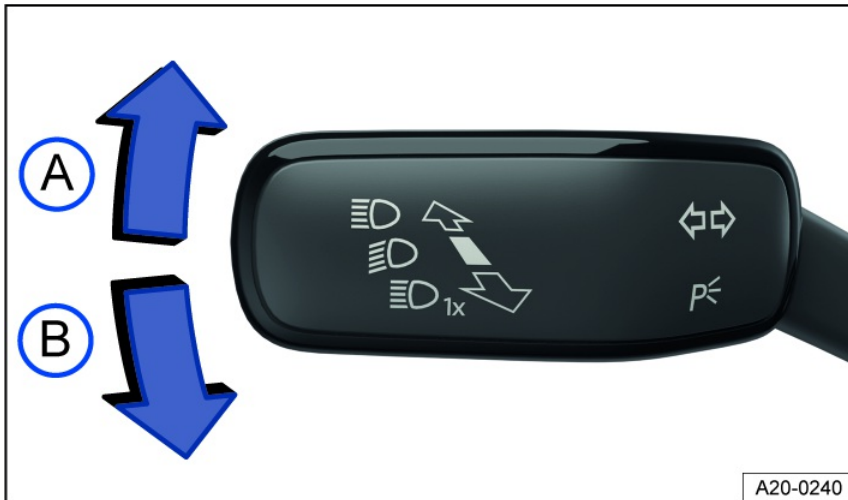

Fig. 81 On the left side of the steering column: turn signal and high beam lever.
2. Move the turn signal and high beam lever from the center position to the preferred position fig. 81.